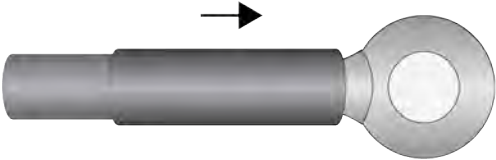

Figure 47. Sliding the Heat-Shrink Tube Over the Ring Terminal Lug
- 5. Slide the heat-shrink tube over the shaft of the ring terminal lug. Refer to Figure 47.